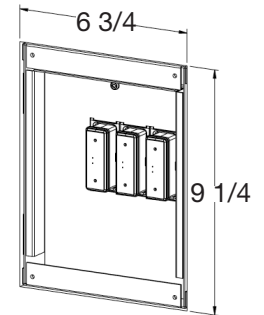

Figure 6
10) Determine position of the 1/2" thick paneling material and cut a 9 1/4" x 6 3/4" wide rectangular hole. This opening should fit around the SPD unit as shown in figure 6.